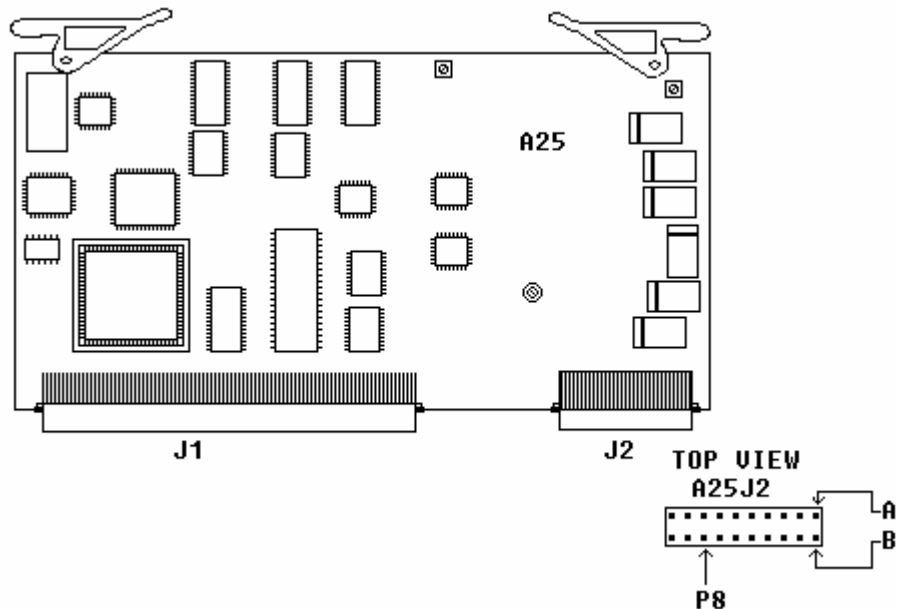

Figure 4. A25 digitizer module.
- (16) Set signal generator for a 10.7 MHz, -30 dB output.
- (17) Connect multimeter to A25 J2 pin 8B (fig. 4) on digitizer module and set multimeter to measure volts dc.